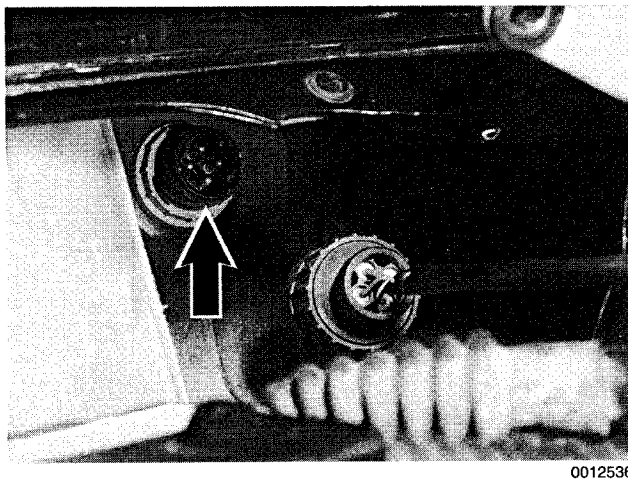

Fig. 11. Wiper assembly electrical connector (arrow).
11. Separate harness at bulkhead connector. See Fig. 11.